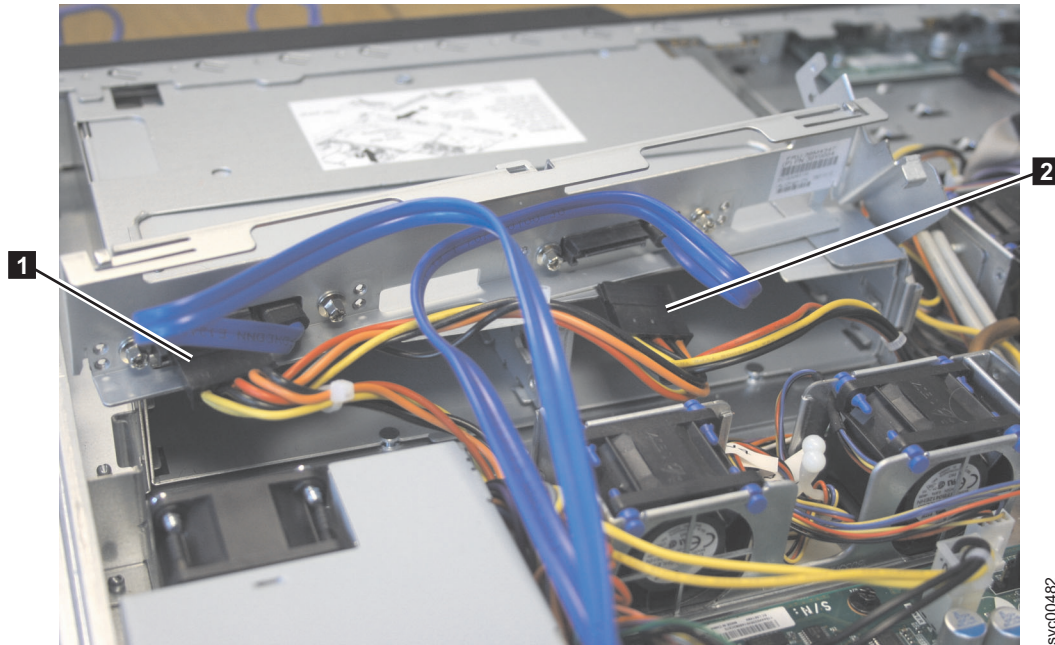

Figure 127. SAN Volume Controller 2145-8A4 power supply connectors
2. Connect power cable connectors P2 **1** and P3 **2** to the replacement backplane, as shown in Figure 127 on page 139.